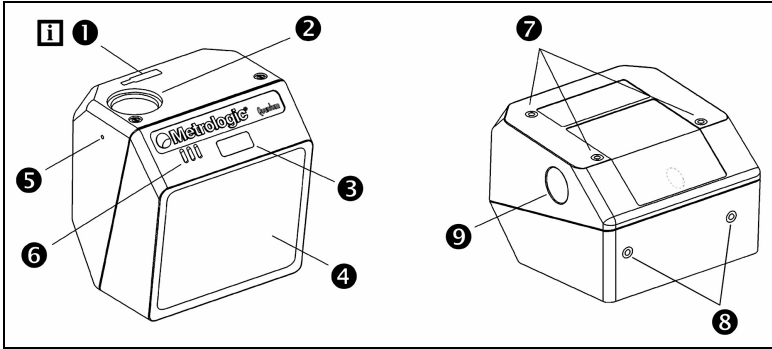

Figure 1a. Scanner Components
1. Locate the small 'pin-hole' on the side of the QuantumE near the cable (*item 5 in figure 1a*).